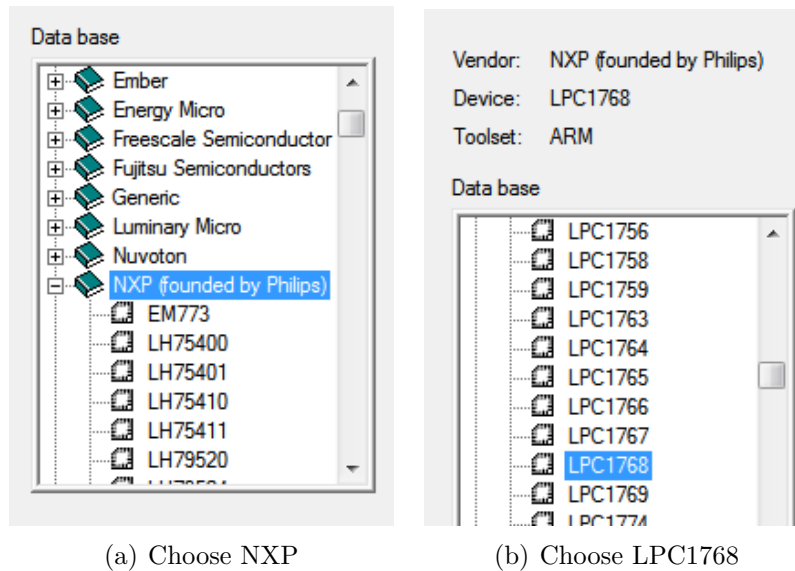

Figure 5.2: Keil IDE: Choose MCU
- Choose NXP(Founded by Philips) → LPC1768 (See Figure 5.2\(a\) and Figure 5.2\(b\))